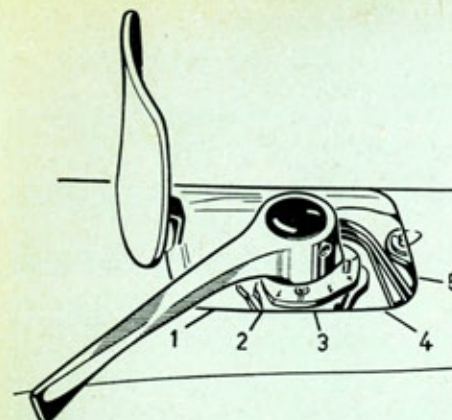

Fig. 71
- Insert cam-group into machine (Fig. 71).
- With needle in its highest position, bring handle in position 1 (handle completely on the left) Fig. 71.